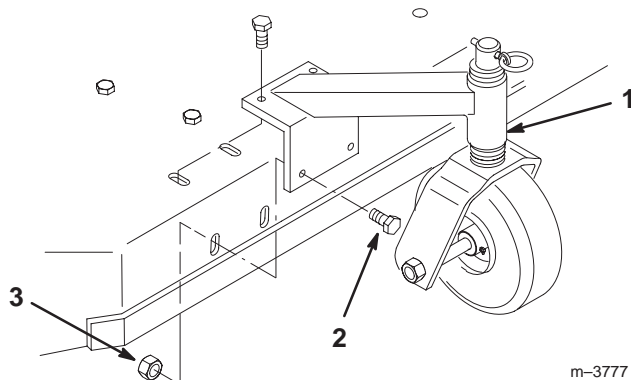

Figure 2
1. Align the casters with the holes on the top and front of the mower, and insert 8 bolts (3/8 x 3/4 in.) through the mower. Secure the caster with 8 flange nuts (3/8 in.) below the mower (Fig. 2).